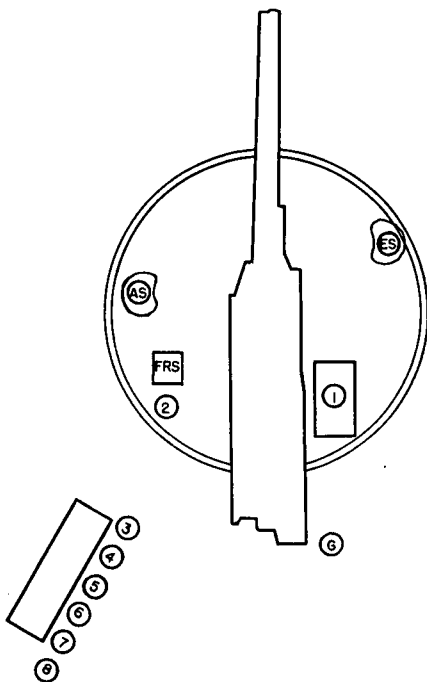

FIGURE 2.—Positions at command DETAILS, POSTS.
b. When the section arrives at the gun emplacement, he commands: 1. DETAILS, 2. POSTS, and supervises the procurement of equipment. After all details have reached their posts (see fig. 2) he commands: EXAMINE GUN. He then personally makes an inspection of the gun, mount, and other matériel, assuring himself that the power is turned on in the data transmission system, that all mechanical pointers are properly adjusted (see FM 4-110), that all electrical pointers are synchronized with their respective transmitters in the director (see FM 4-110), that the pressure in the rammer cylinder is correct, that the oil in the packing seal and in the front and rear rammer buffer cylinders has been replenished, that firing mechanisms and safety devices are in order, that the recoil cylinder and the front and rear buffer cylinders are properly filled, that all moving parts are lubricated, that the breech operating cam has been set for automatic (or hand) operation, that the rammer release tripping cam has been set for proper operation of the rammer, and that the operation of the rammer has been tested by ramming a drill cartridge with the gun at elevations of approximately 800 and 1,100 mils. He then commands: REPORT, receives the reports of the members of the gun section as called for by the drill table (ch. 10), and reports to the battery executive, "Sir, No. _____ in order," or reports any defects he is unable to remedy without delay.